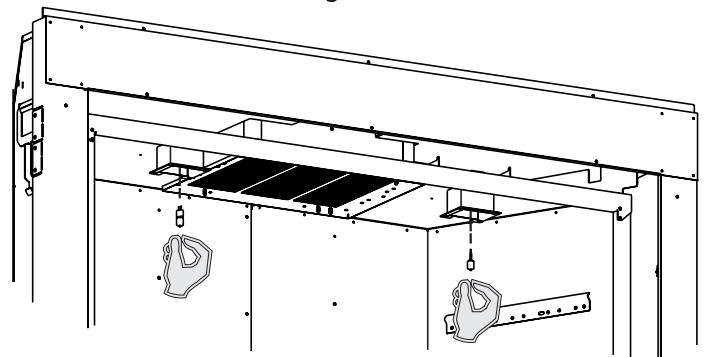

Figure 33
2. Remove old light bulb and replace with a new one. See Figure 33.